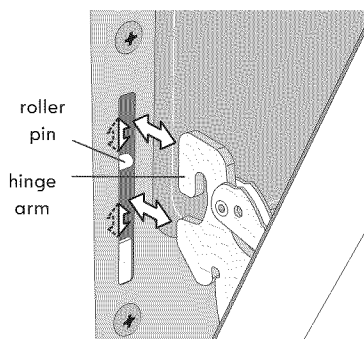

Figure 61: Hinge pin locations
5. With the oven door in the broil stop position, lift the oven door hinge arms over the roller pins located on each side of the oven frame (Figure 61).
2. Holding the oven door at the same angle as the removal position, seat the hook of the hinge arm over the roller pins located on each side of the oven door frame (Figure 61). The hook of the hinge arms must be fully seated onto the roller pins.